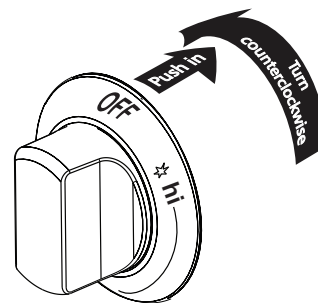

Figure 10: Correct way to set burners
2. Push the desired surface control knob in and turn counter-clockwise out of the **OFF** position and rotate to the  position (Figure 10). Visually check that the burner has lit.